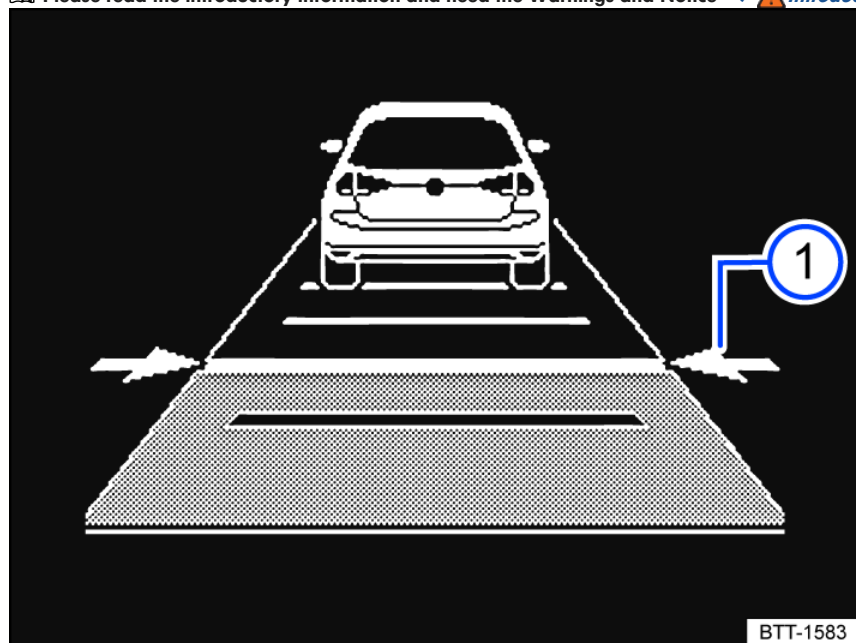

Fig. 132 In the instrument cluster display: set distance **①** (schematic diagram, ACC is regulating).
The instrument cluster display shows the selected level **fig. 132①**. Note the country-specific regulations for minimum distance.